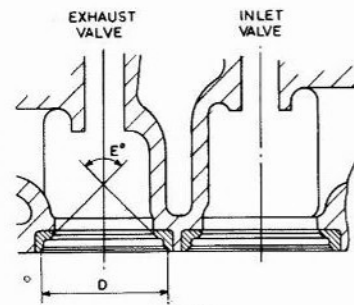

Fig. H.9.
- Visually inspect to ensure that the insert is pressed in squarely and is flush with the bottom of the recess. See Fig. H.9.